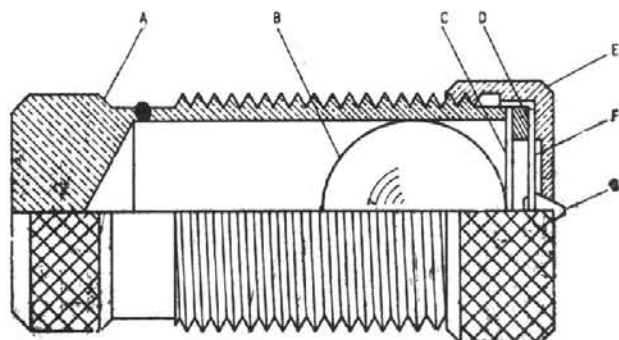

Figure 7. (K-6077069-3) Stationary Contact Assembly.
The contacts are silver-to-silver elements and are constructed with a non-bounce feature to insure a positive circuit closure. Fig. 7 shows the arrange-
Should it be necessary to change the stationary contact mounting spring (F, Fig. 7), remove the contact barrel and sleeve as a complete unit after loosening the screw at the front of the contact block. Unscrew the cap (E). The contact and its flat spiral mounting spring may then be removed. Correct adjustment of the spring is such as to provide a .004 to .009 inch movement of the stationary contact (G) from the point of contact closure to the point at which it touches the tin diaphragm (C).